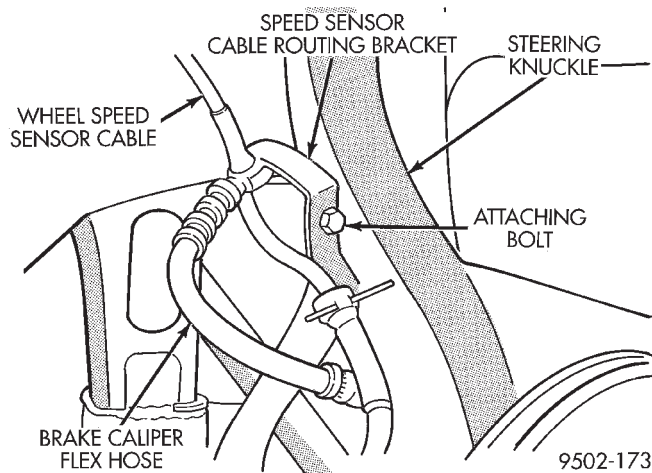

Fig. 46 Speed Sensor Cable Routing Bracket
(11) Remove the speed sensor cable routing bracket (Fig. 46) from the steering knuckle.
(6) Install the speed sensor cable routing bracket on the steering knuckle (Fig. 46) and securely tighten the attaching bolt.